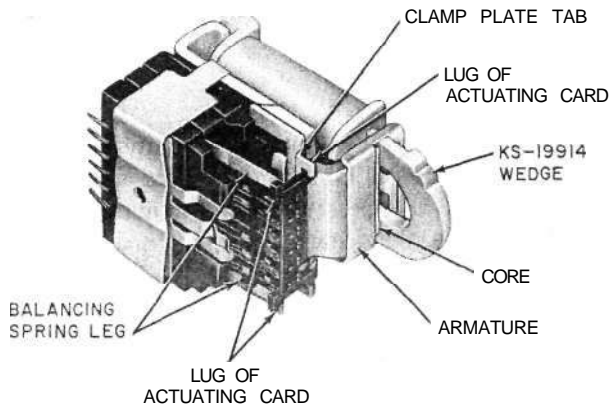

Fig. 11—Blocking BF-, BG-, BJ-, BL-, and BM-Type Miniature Wire-Spring Relays - Operated
3.09 BF-, BG-, BJ-, BL-, and >BM< - Type Miniature Wire Spring Relays: Fig. 11 and 12—Block relays operated as covered in (1) and nonoperated as covered in (2) using the KS-19914 wedge. The wedge is a "U" shaped tool having two legs each terminating in beveled edges. In using the tool, the legs are deflected toward each other to permit the outer edge of each leg to pass the backstop side legs.